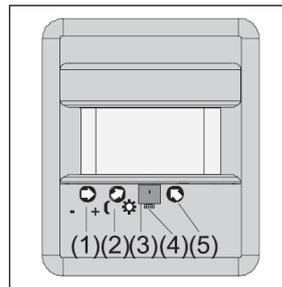

Figure 19
To vary the brightness threshold, turn potentiometer (2) into the desired direction (Fig. 19).